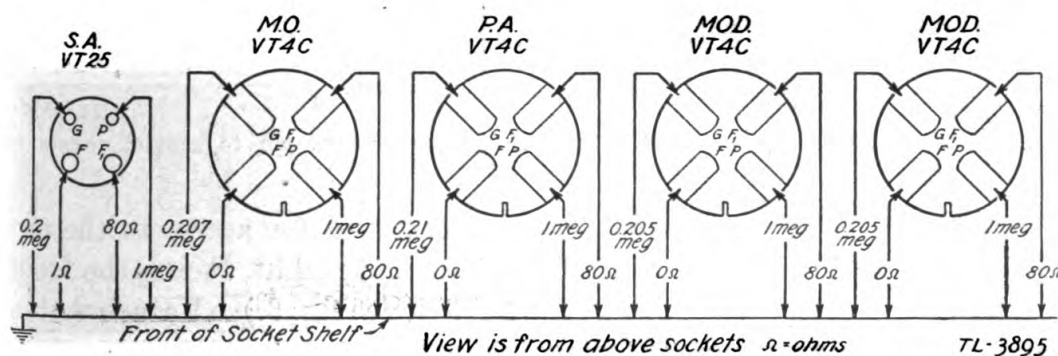

FIGURE 23.—Radio transmitter BC-191-(*), vacuum tube sockets pin to chassis resistance values.
(2) *Measurements from tube sockets.*—Tube socket pin to ground (chassis) resistance values are indicated in figure 23. Resistance values within 15 percent of these should be considered satisfactory.
(3) Turn transmitter **OFF ON** switch to the **OFF** position and disconnect the high voltage cord leading from transmitter to power equipment.
(4) Remove tube compartment shield.
(5) Remove power amplifier tube (**VT-4-C**) from its socket 1110 and cover one filament pin with a piece of paper or tape (see fig. 23 for location of filament pin) and replace the tube. (When transmitter is turned on now the filament of this tube should not light.)
(6) Place **TONE C. W. VOICE** switch on **C. W.**
(7) Set **OFF ON** switch at **ON**.
(8) The **FIL. VOLTS** meter will now read more than 10 volts when the **C. W. FIL MOD. FIL.** switch is set at **C. W. FIL.** Remove **C. W. FILAMENT** link (the 12 VOLTS or 14 VOLTS link, depending on power supply, see pars. 14 to 16, incl.) and adjust until a reading of a little over 10 volts is obtained.
(9) Place **OFF ON** switch at **OFF** and reconnect the high voltage cord. Remove piece of wire shorting the two terminals of the 0- to 1-ampere radio frequency ammeter.
(10) Set **OFF ON** switch to **ON** and press **TEST KEY**. If transmitter tuning unit is not neutralized properly, an appreciable deflection of the 0- to 1-ampere radio frequency ammeter will occur.
(11) Release **TEST KEY** and remove **CALIBRATION CHART** by unscrewing the four knurled screws at the corners.
(12) With a screw driver, unlock neutralizing capacitor lock by turning screw one-quarter turn counterclockwise.
(13) Press **TEST KEY** and rotate neutralizing capacitor control until the current indicated on the 0- to 1-ampere radio frequency ammeter is reduced to zero.
(14) Adjustment of this control reacts on the tuning of the power amplifier; therefore, slight readjustments must be made on the **P. A. TUNING** and antenna controls. If the 0- to 1-ampere meter shows a current indication after this adjustment, repeat operation (13). Repeat operation (14) once more and then operation (13) if necessary. This completes the neutralization. Release **TEST KEY** and set **OFF ON** switch at **OFF**.
(15) Lock neutralizing capacitor control in its final position by rotating screw lock one-quarter turn clockwise, using the screw driver. Replace **CALIBRATION CHART**.